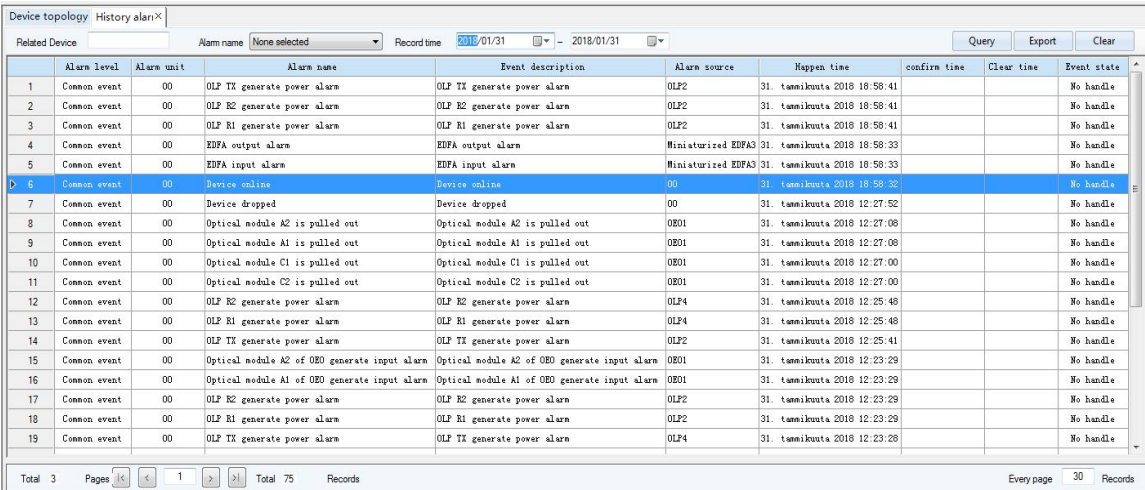

Fig.6.4 History alarm
- (3) Record time: Choose the start date and end date of the pre-query, and click the “Query” button, then all alarm information of selected time period will be displayed (see Fig.6.4).